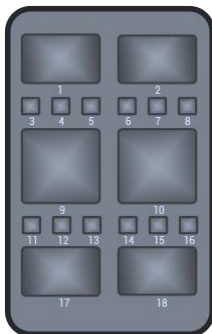

Figure 4-3: Well position
- #1 well (see Figure 4-3)
- #2 well (see Figure 4-3)
➤ #1 and #2 well (see Figure 4-3)
- # 15 well (see Figure 4-3): The following instructions are only for PE kits. Add 200 μ L of MDA Enzyme Mix to the MDA Reagent tube with a 1 mL pipette. Vortex for 5 s, mix thoroughly and then add the mixture to the #15 well. When adding the mixture, make sure there are no bubbles at the bottom of the tube.